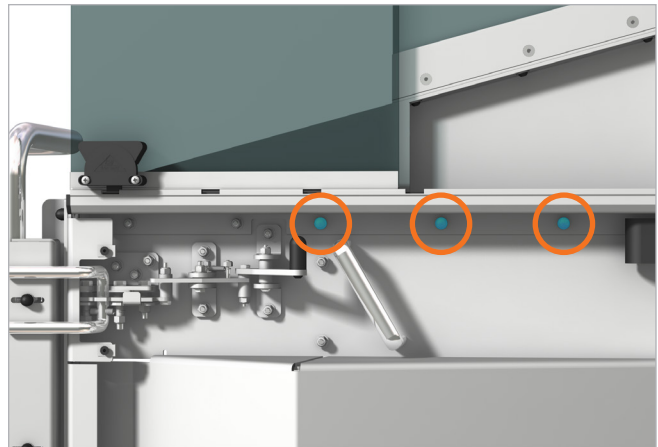

Figure 1 – Removal/replacement of plastic nut covers.
5. Reinstall the plastic nut covers. See **Figure 1**.